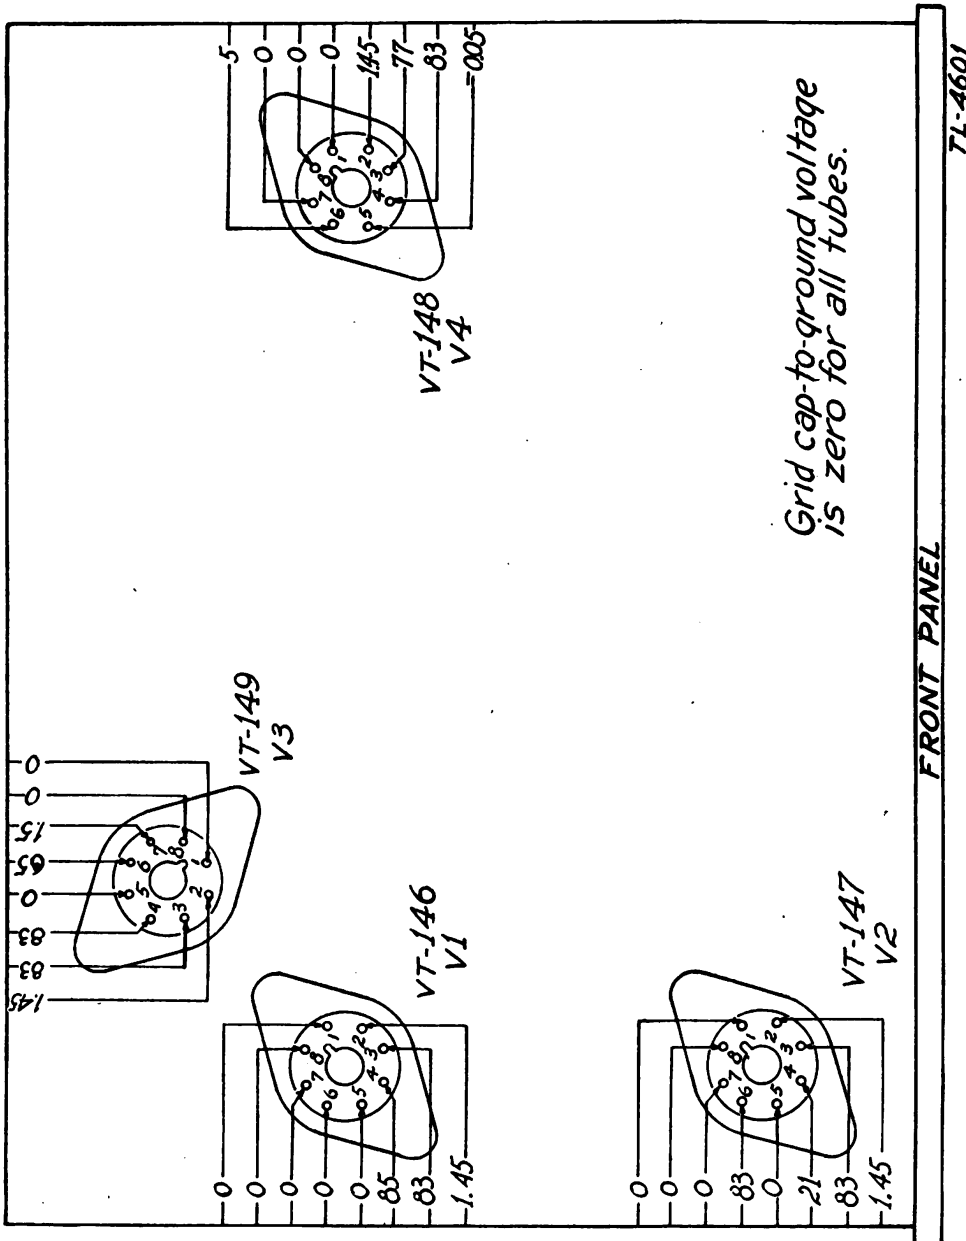

FIGURE 25.—Receiver voltage diagram. (Receiver viewed as in fig. 9.)
(1) The pin-to-ground (chassis) voltages should be within plus or minus 5 to 10 percent of the values indicated in figure 25 when the conditions given below exist.